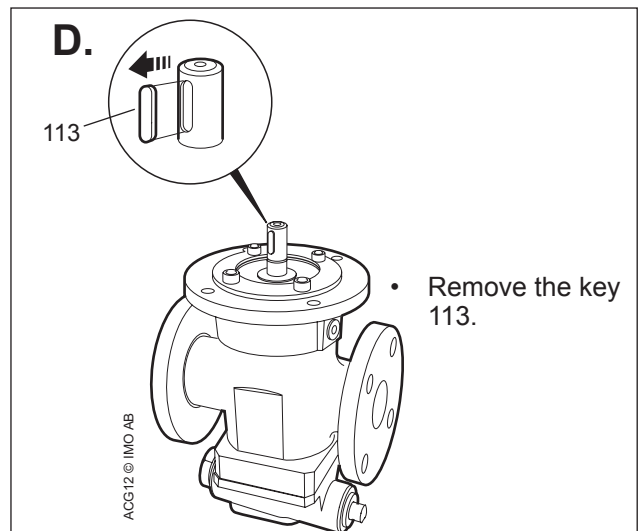

Fig. 9
- Fit the key back in position, see fig. 9.